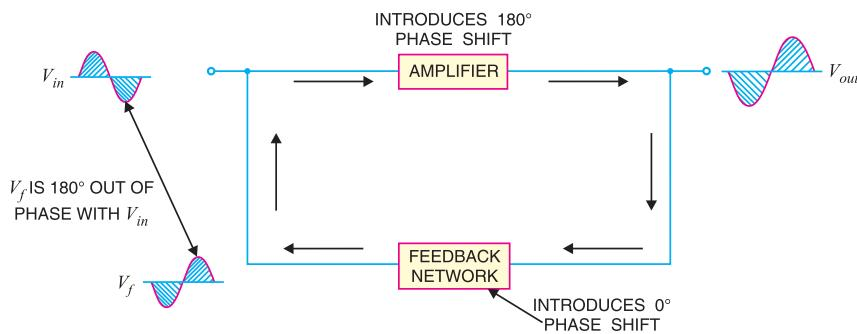

Fig. 13.2
**(ii) Negative feedback.** When the feedback energy (voltage or current) is out of phase with the input signal and thus opposes it, it is called *negative feedback*. This is illustrated in Fig. 13.2. As you can see, the amplifier introduces a phase shift of  $180^\circ$  into the circuit while the feedback network is so designed that it introduces no phase shift (*i.e.*,  $0^\circ$  phase shift). The result is that the *feedback voltage*  $V_f$  is  $180^\circ$  out of phase with the input signal  $V_{in}$ .